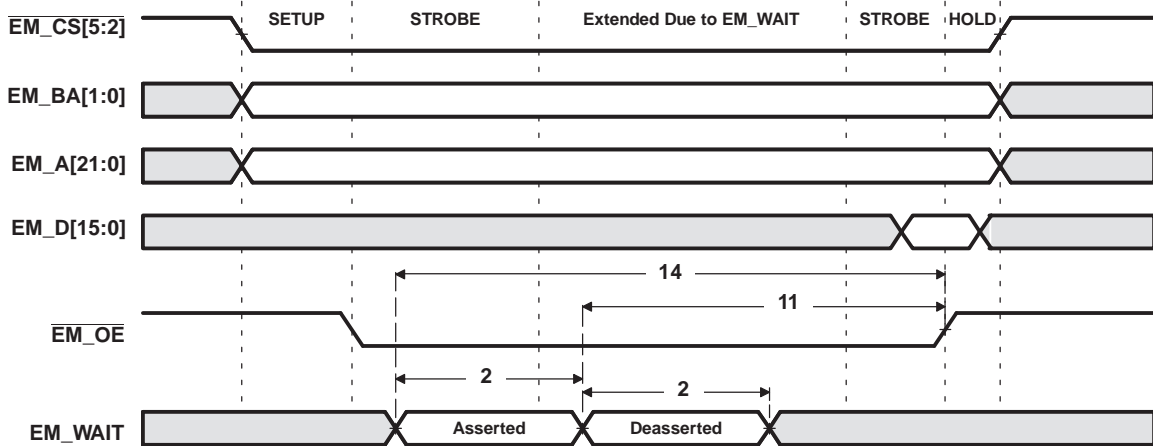
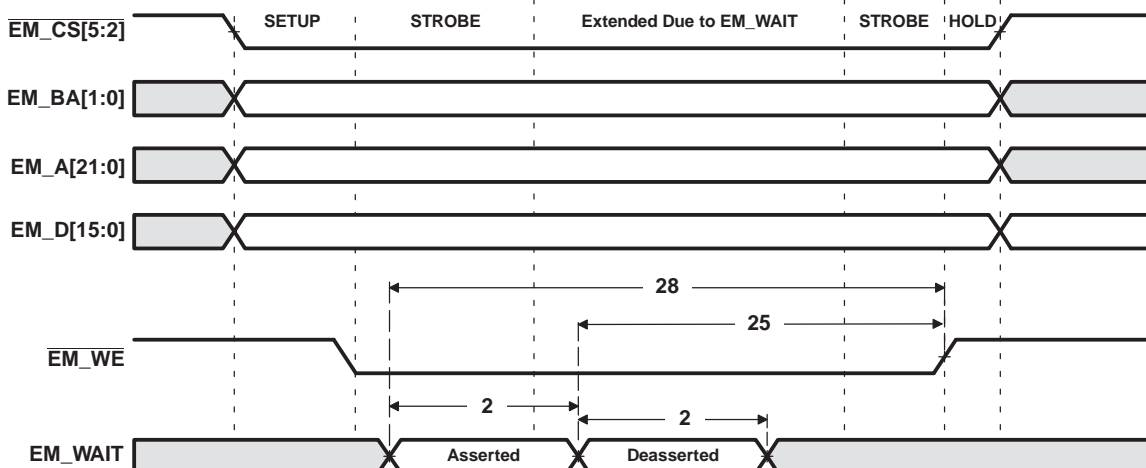

Figure 6-23. $\overline{EM_WAIT}$ Read Timing Requirements
Figure 6-24. EM_WAIT Write Timing Requirements
- (1) E = SYSCLK5 period in ns for EMIFA. For example, when running the DSP CPU at 594 MHz, use E = 10.1 ns.
(2) Setup before end of STROBE phase (if no extended wait states are inserted) by which EM_WAIT must be asserted to add extended wait states. Figure 6-23 and Figure 6-24 describe EMIF transactions that include extended wait states inserted during the STROBE phase. However, cycles inserted as part of this extended wait period should not be counted; the 4E requirement is to the start of where the HOLD phase would begin if there were no extended wait cycles.